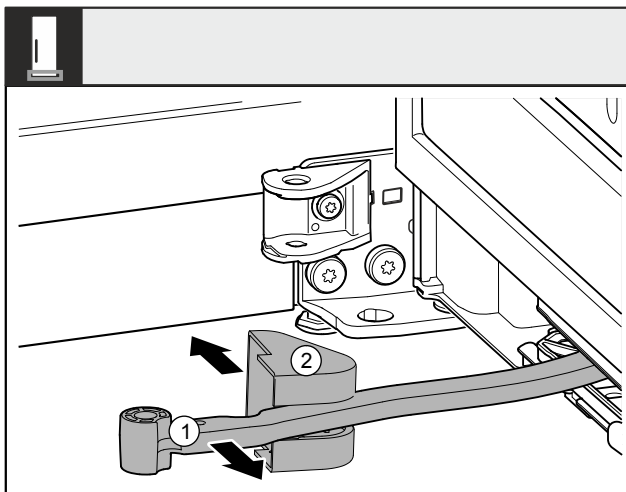

Fig. 11
- ▶ Turn the joint Fig. 11 (1) towards the door.
- ▶ Remove the swap bearing block cover Fig. 11 (2).